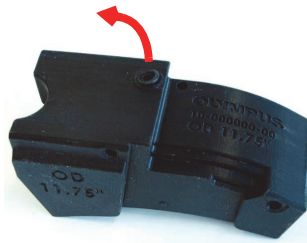

Figure 5-5 Changing the o-ring seal for the water connection
1. Use an appropriate tool such as a small flathead screwdriver to carefully lift and pull off the old o-ring seal without damaging the mounting surface (see Figure 5-5 on page 52).